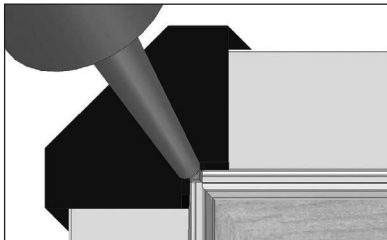

FIG. 11
- b. Apply small amount of silicone on the interior side of the small void in the corner of the frame and pad. (Fig. 11)
- Apply small amount of silicone on the interior side of the small void in the corner of the frame and pad. (Fig. 11)